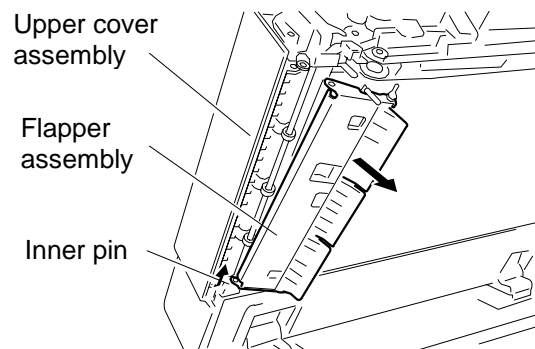

Fig. 8
- 7) While holding up the flapper assembly, remove the upper cover assembly and the flapper assembly from the inner pin in removing the flapper. (Fig. 8)